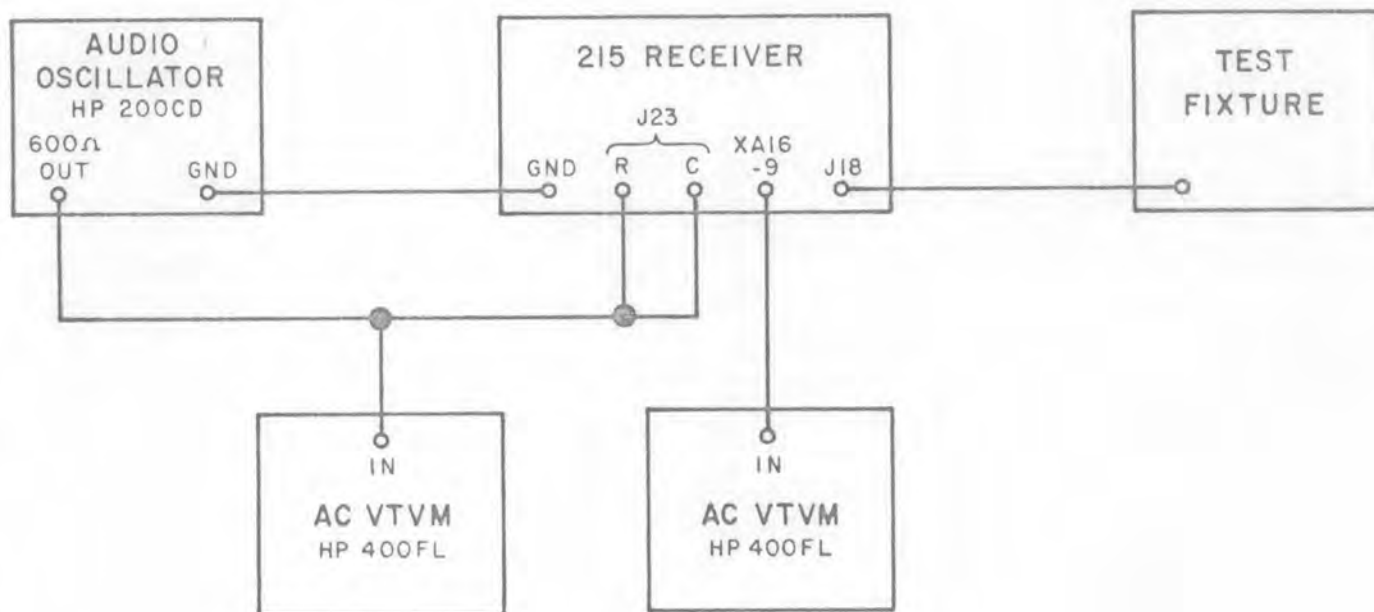

Figure 4-29. Equipment Connections, Common Mode Rejection Adjustment
- (1) Connect the equipment as shown in Figure 4-29.